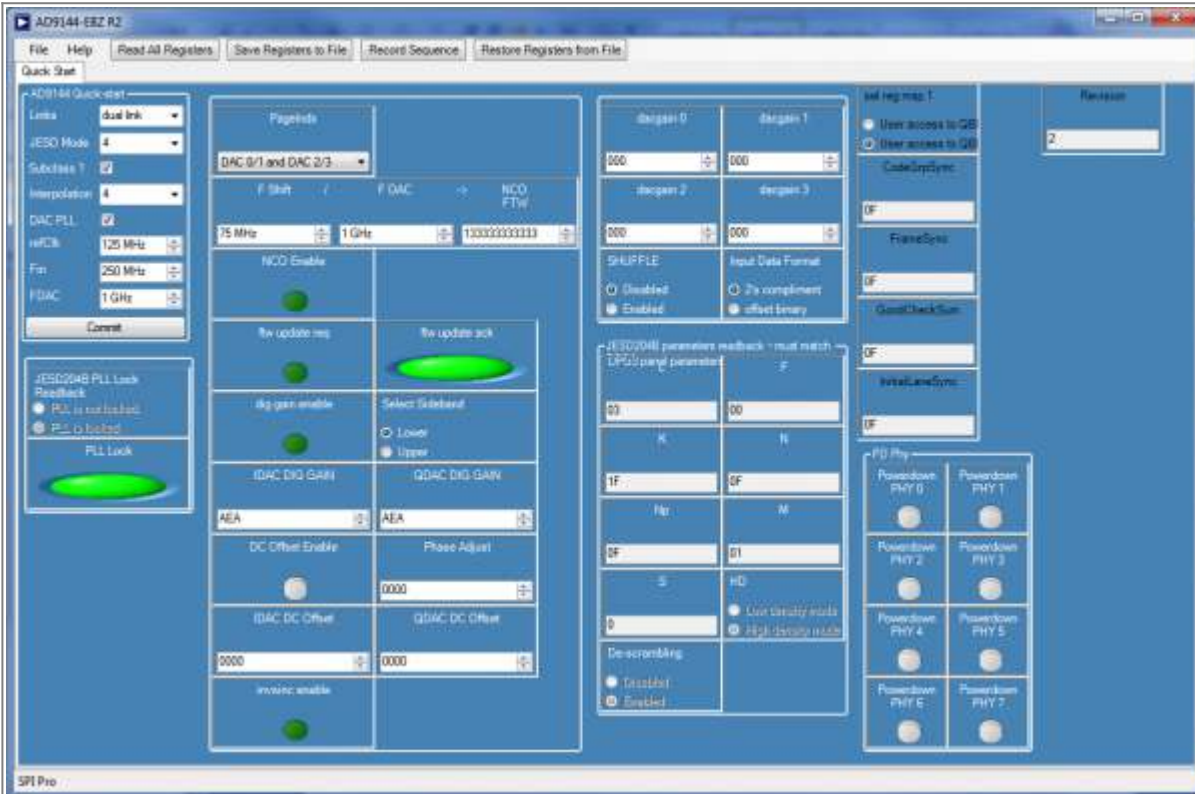

Figure 7. SPI Setting for using NCO
1. The NCO is used by loading the FDAC to 1GHz and selecting the shift frequency, for this example we will use 75MHz. The click the NCO Enable button, the NOC FTW will change from 00000 to 133333333.xt click the ftw update req button, the ftw update light should turn bring green at this pointSee Figure 7